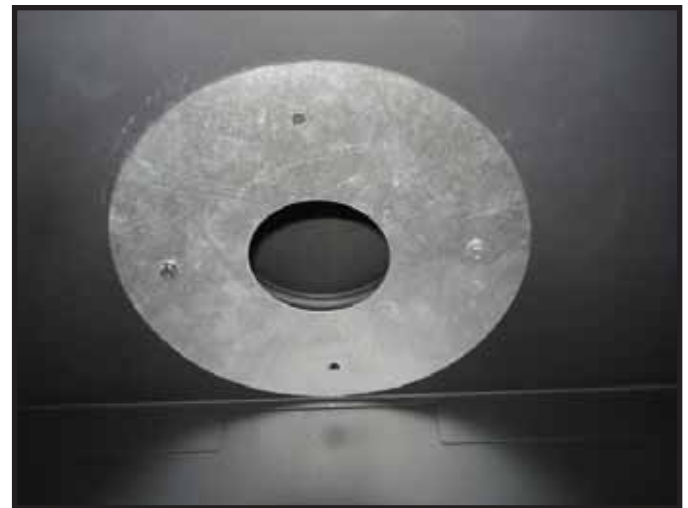

Figure 7.7 Exhaust Restrictor Installation
3. Use (2) 1/2 in. (13 mm) self-piercing screws to secure vent restrictor to firebox heat shield. See Figure 7.7.